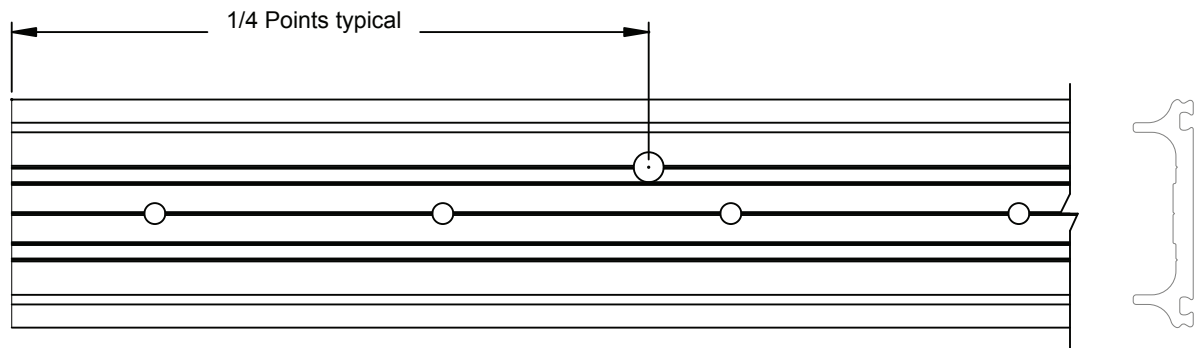

FIGURE 2
1.2 Weep holes are to be located at 1/4 points of horizontal pressure plates unless shop drawings designate different locations. Weep holes are 5/16" diameter (See notes below for drill bit recommendations.). See FIGURE 2